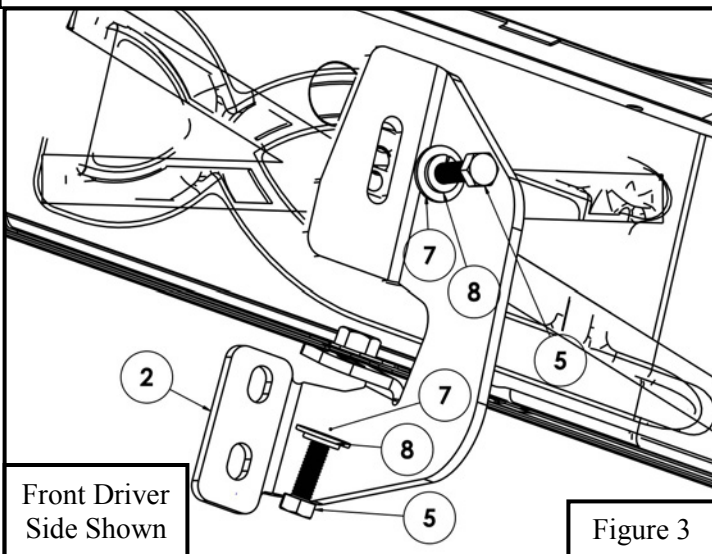

Figure 3
3. Insert (1) M8 U-Nut Clip (Item 9) into the hole where the rubber plug was removed. Clip (1) M8 U-Nut Clip onto pinch weld if no factory welded nut is present. Locate (1) Mounting Bracket A (Item 2) and loosely secure it to the rocker panel using the provided hardware: (2) M8 hex head bolt long, (2) M8 flat washer, and (2) M8 lock washer. See **Figure 3 and 4**.
5. Locate (1) Mounting Bracket A (Item 2) and go to the front passenger side mounting location. Loosely secure Mounting Bracket B to the rocker panel using (2) M8 hex head bolt long, (2) M8 flat washer, (2) M8 lock washer, and (2) M8 U-Nut Clip. Note: For installation on diesel equipped vehicles follow diesel exhaust fluid tank removal instructions on page 3 & 4.